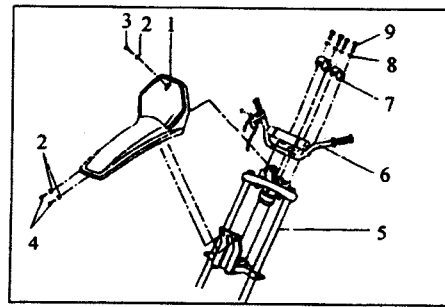

Fig.2
**Front Fender Installation(see Fig.2)**
- (1) Remove screw 3, bolt 4 and washer 2
- (2) Place front fender 1 in front fork 5, fasten it with screw 3, bolt 4 and washer 2, then tighten the fasteners.
**Handle Bar Installation(see Fig.2)**
- (1) Remove upper handle holder 7, washer 8 and bolt 9.
- (2) Place handle bar 6 in the upper handle holder off front fork 5, install upper handle 7, washer 8 and bolt 9. Make sure the handle bar is installed symmetrically. Adjust installation angle of handle bar to ensure easy operation and tighten bolt.